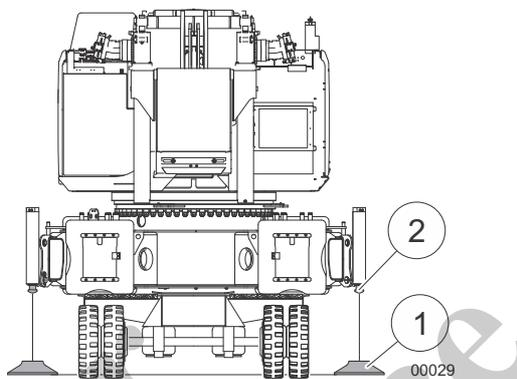

Fig. 103 Positioning the outrigger pads
- 7 Remove the outrigger pads in Fig. 103 (1) from the middle bridge and place them under the outrigger cylinder (2) in Fig. 103.